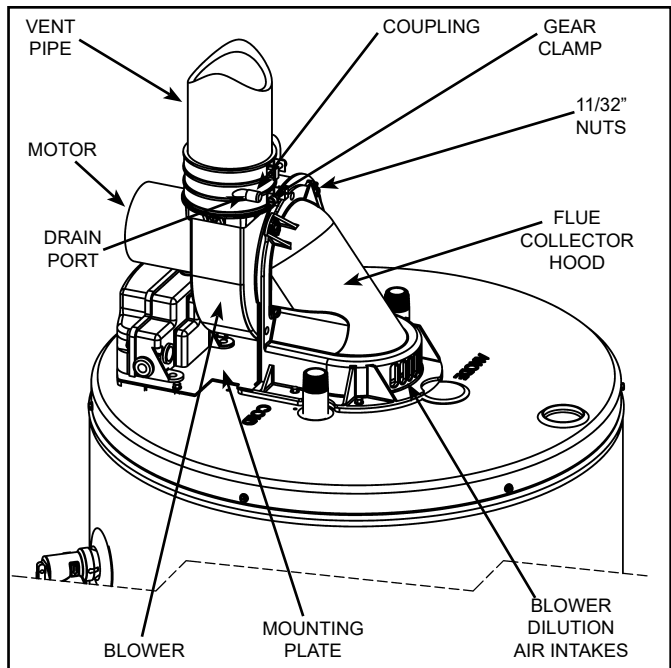

Figure 48.
Inspect the top of the heater and around the ventilation openings of the blower motor and the rear blower dilution air intakes for any lint and dust that may have accumulated. Depending on the location of the heater, significant quantities of lint may accumulate. The lint may obstruct the free flow of air to the motor, and cause the motor and blower to run hotter than normal (see Figure 48).
4. Disconnect the vent piping from the top of the blower. Loosen the lower gear clamp that holds the rubber coupling to the blower (see Figure 48).
5. Remove and retain the (4) 11/32" nuts located on the back of the blower with the nutdriver (see Figure 41 and Figure 48).
10. With all parts cleaned and the blower wheel turning freely, reinstall the blower to the mounting plate aligning the (4) studs and pushing tight against the mounting plate.
11. Reinstall the (4) 11/32" nuts and tighten securely. All (4) nuts must be in place and secure to safely operate the blower.